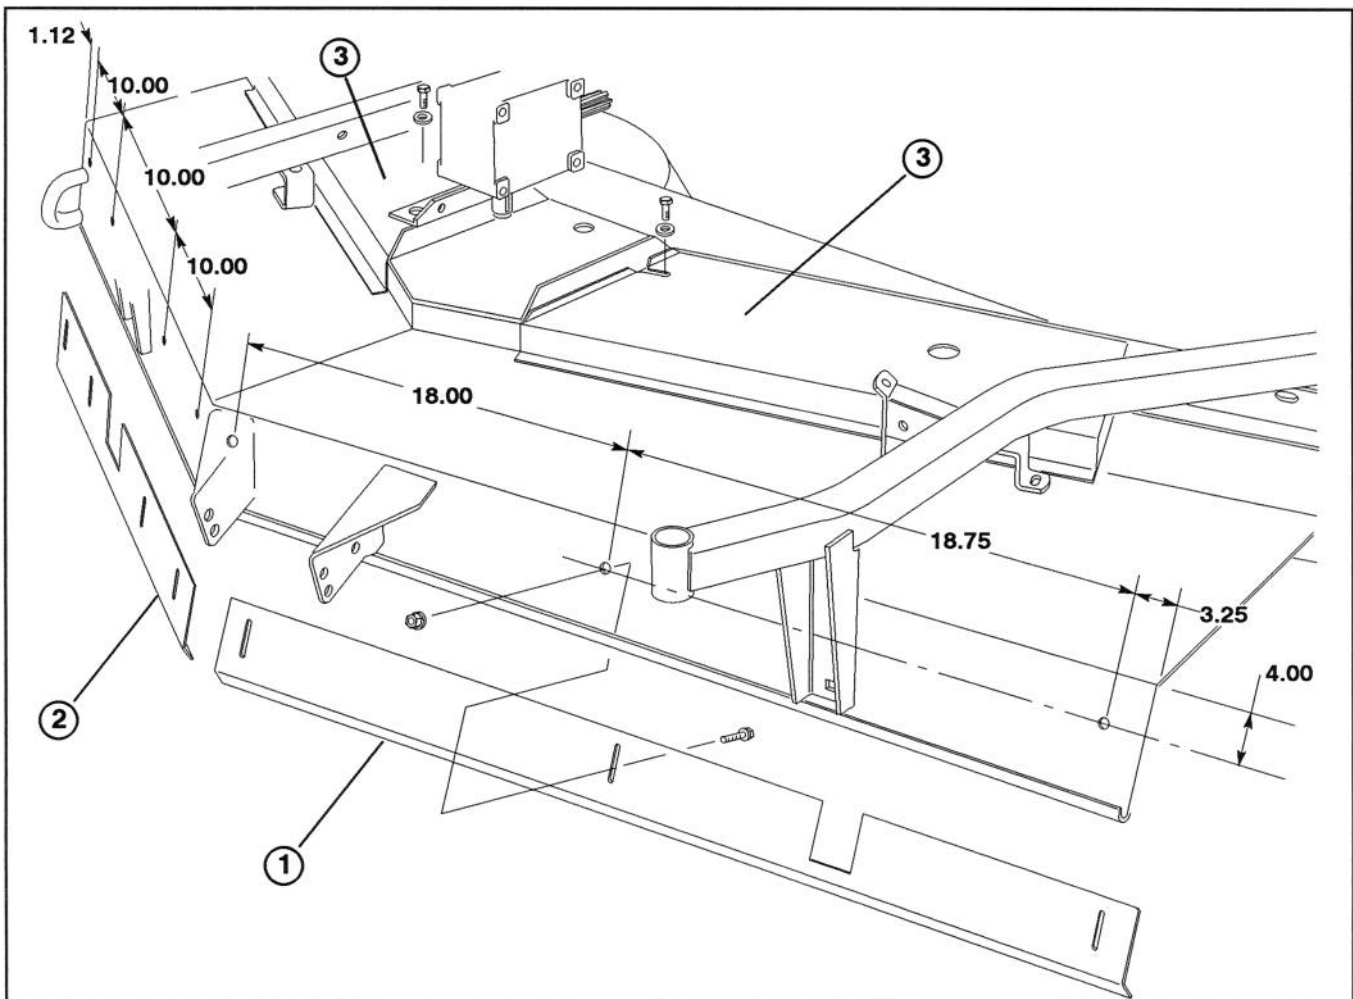

Figure 1
1. Using dimensions shown in figure 1, locate, mark and drill (7) .344 dia. holes in front of deck.
2. Loosely secure right and left baffles to inside of deck with flange head capscrews and flange nuts, positioning them as shown in figure 1.